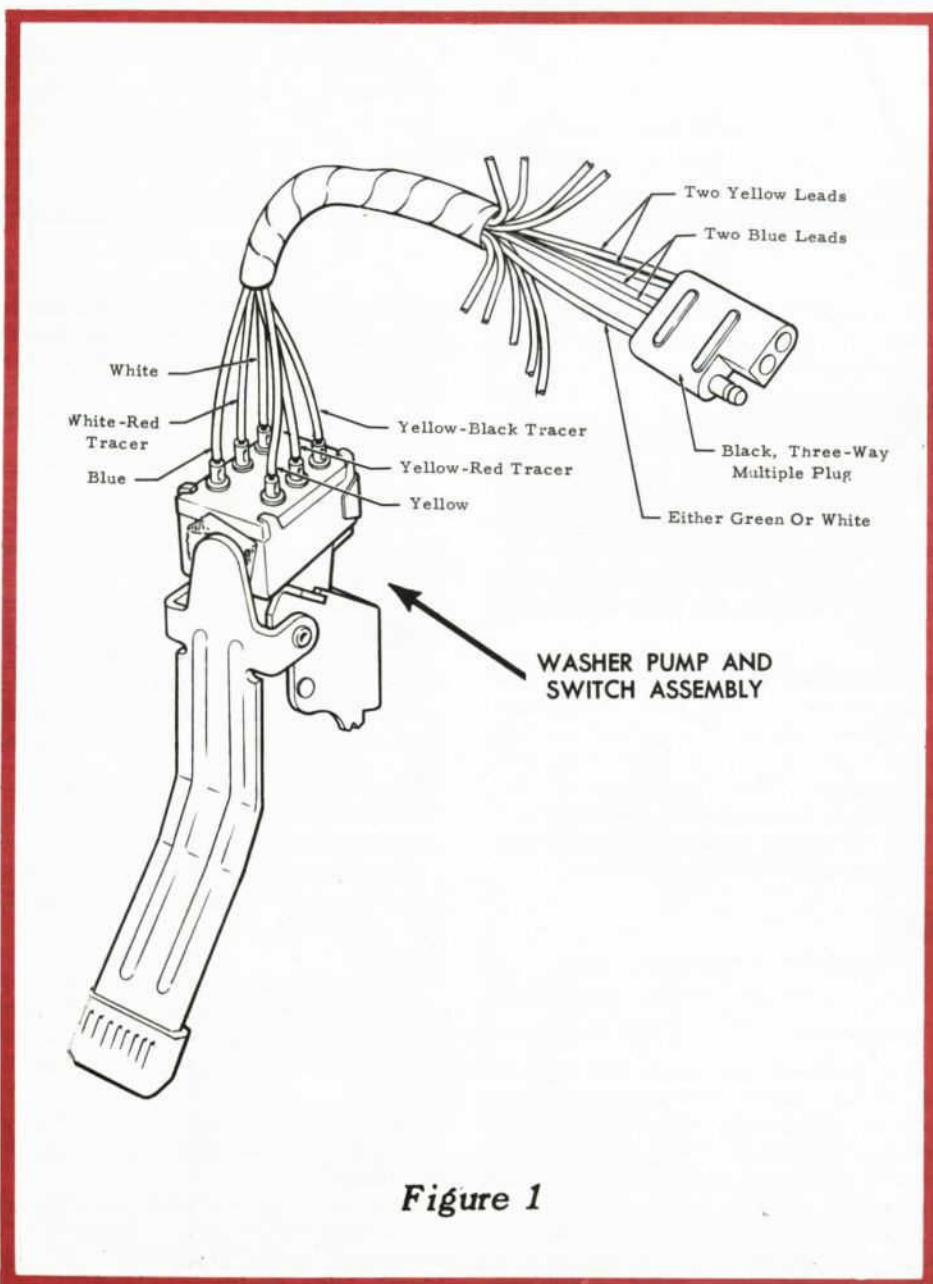

Figure 1
4. Compare the wire installation at switch terminals with the code on the terminal block (see Figure 1 below.) If the wires are improperly located at the pump assembly switch, replace the assembly.